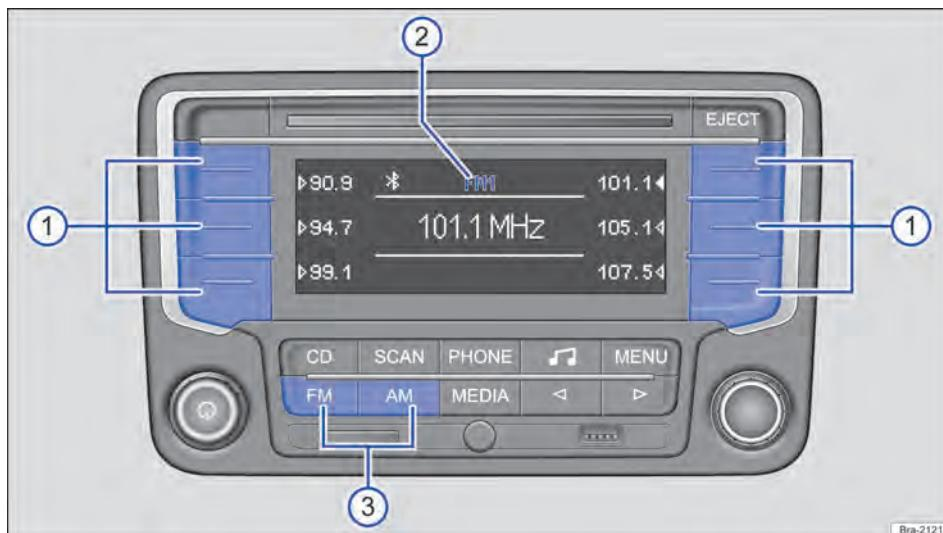

Fig. 140 Select the frequency band and memory level.
Press the unit button **FM** or **AM** → Fig. 140 ③ until the desired memory level is displayed → Fig. 140 ②.
When switching memory levels, memorized radio station frequencies are displayed next to the station buttons Fig. 140 ①.